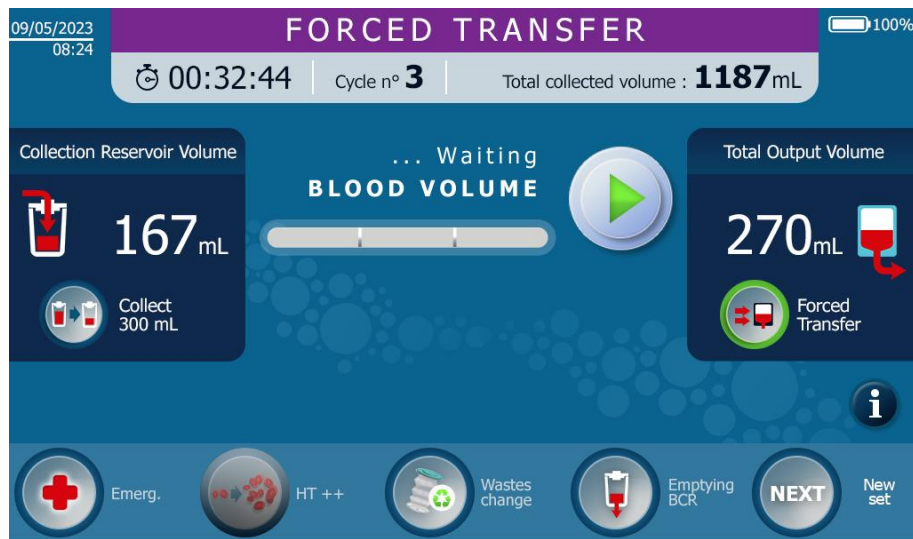

Figure 112: Forced transfer screen with function activated
- When the 'Forced transfer' function is activated, an activated Forced transfer function button  is displayed and the top banner turns purple (see Figure 112).